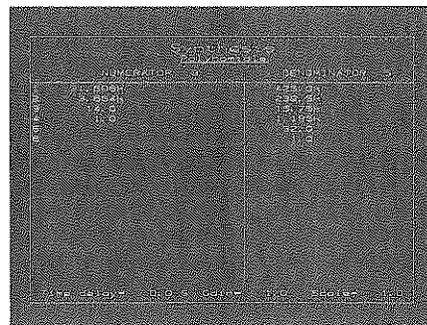

Figure 10-5
4. **Display Table** The polynomial synthesis table will appear as shown in Figure 10-5.